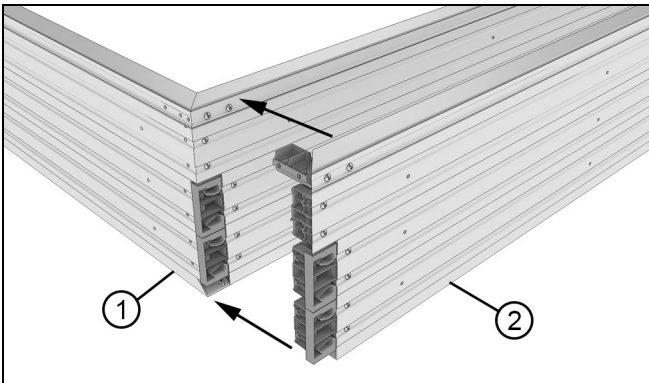

Figure 43
2. Align the end of one side jamb with the head jamb and slide until the miter is flush. See Figure 43